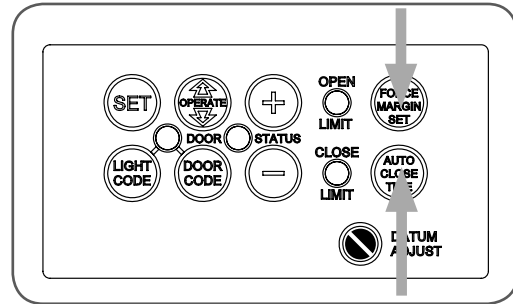

fig 36
- Press and hold both the AUTO CLOSE TIME and FORCE MARGIN SET buttons (**Fig. 36**).